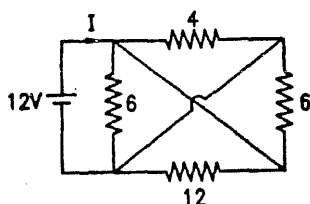

FIG. 1.185 : REFERENCE FIGURE FOR PROBLEM NO. 8
- Find the circuit resistance as seen by the battery of Fig. 1.185. What is the current supplied by the battery ? [1.5 Ω , 8 A]